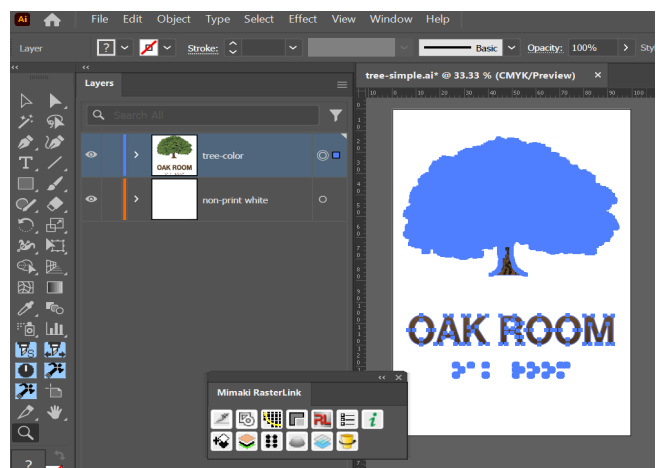

fig. 3
- Select the “raised” elements layer. Raised elements can include Braille, text and pictogram. Some types of ADA Signage do not require a pictogram or image. fig. 3